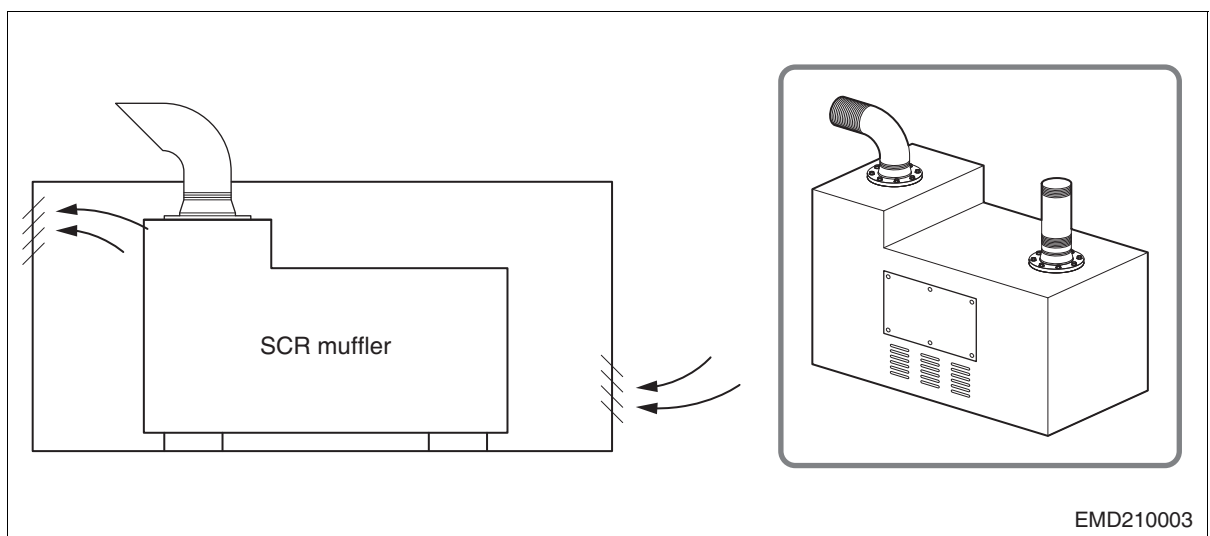

Fig. 2 SCR Muffler Protection (for example)
- If the SCR muffler is installed outside the engine compartment, it should be protected from sea water, etc. In case of installing any protective equipment, the thermal threshold of the various sensors in the SCR muffler should be considered to offer sufficient ventilation. (Refer to Fig.2)